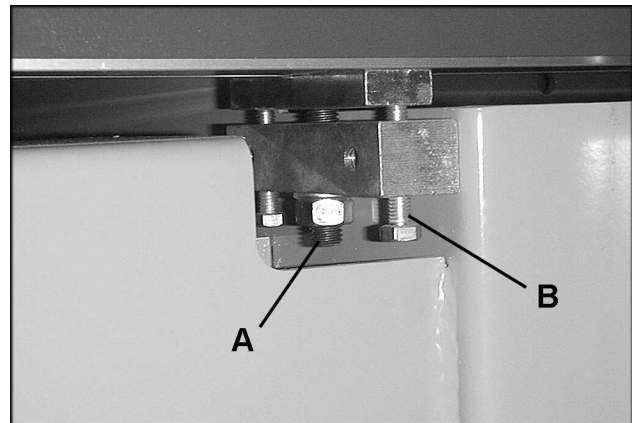

FIGURE 21
1. The bolts (B-Fig. 21) are used to adjust the height of the sliding table. They are pre-set at the factory.
2. Use bolts (A-Fig. 21) to correct parallelism between sliding table and saw blade.